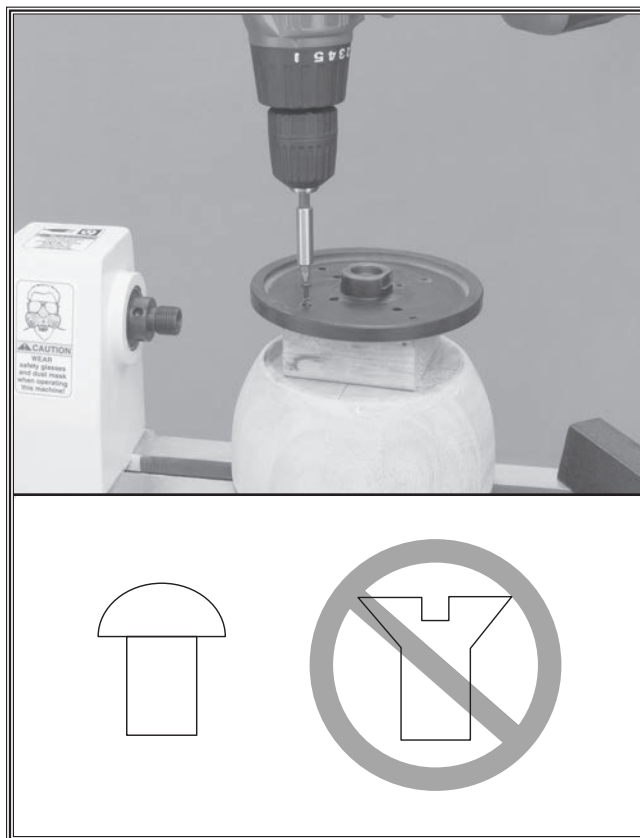

Figure 27. Mounting face plate to a backing block, which is glued to the workpiece.
3. Center the face plate on the workpiece and attach it through the face plate holes with wood screws, as shown in **Figure 27**.
NOTICE: Only use tap screws or wood screws with non-tapered heads (**Figure 27**) to attach the face plate to the workpiece. Do NOT use drywall screws or screws with tapered heads because these can split the face plate, or the screws may snap off during operation.